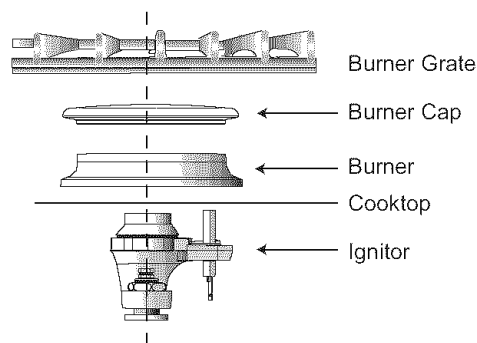

Figure 3: Right Side Burner - Side View
4. Push top rack the rest of the way in (See Figure 3).